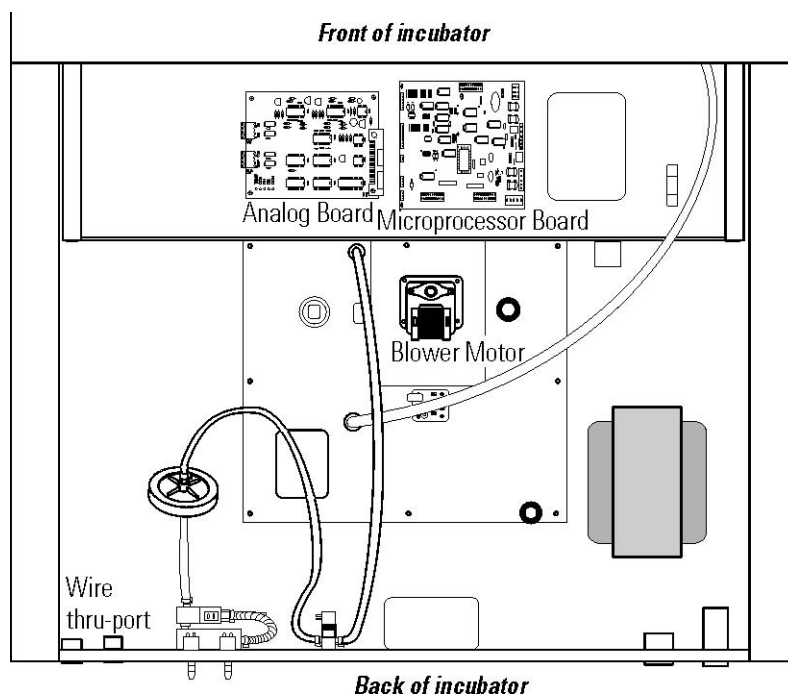

Figure 6-3. Analog Output Board Location
3. Locate the Analog Output board. Refer to Figure 6-3.